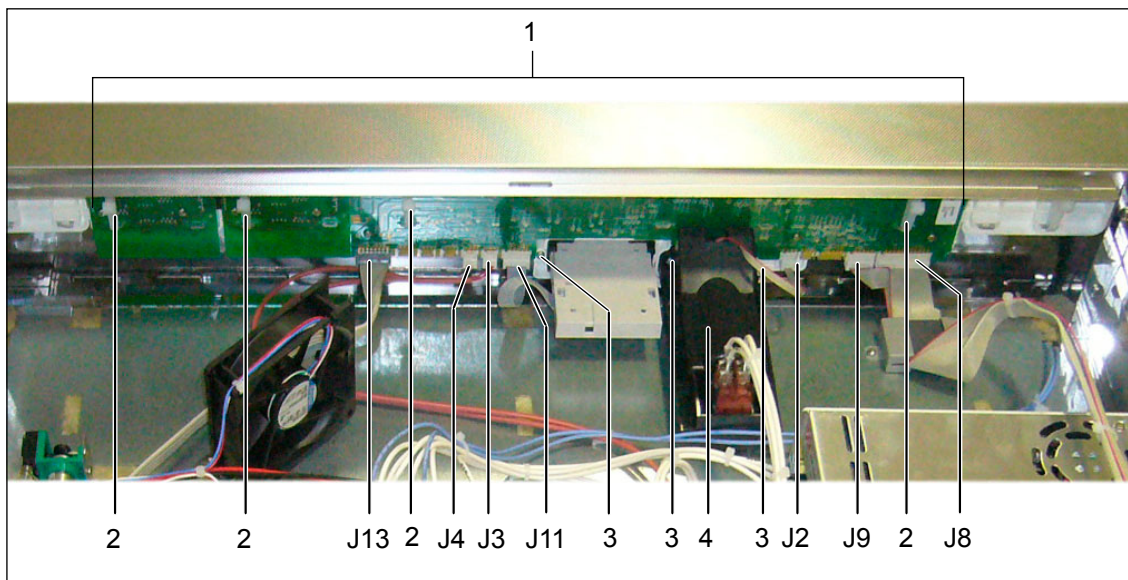

Fig. 8 Replace controller (the example shows the CO₂ INCO incubator controller, see also control unit overview on pages 11 and 12)
3. Pull off the push/turn control (1) on the operating side forwards.
4. Remove the plugs (4-pin) (4) in the control unit from the controller slot J2 (see Fig. 8).
5. Undo the mounting bolts on left and right (2).
8. Attach the module with two screws (2).
9. Connect the plug (4) to the controller slot J2.
10. Attach the push/turn control (1) at the front.
4. Undo three screws (Fig. 8, 3) and remove the main switch module (4).
5. Cut through three (HCP) or four (INCO) cable ties (2) with wire-cutting pliers and discard.
7. Remove controller (1) to the rear.
8. Insert new controller and fasten controller and main switch module with three screws (3).